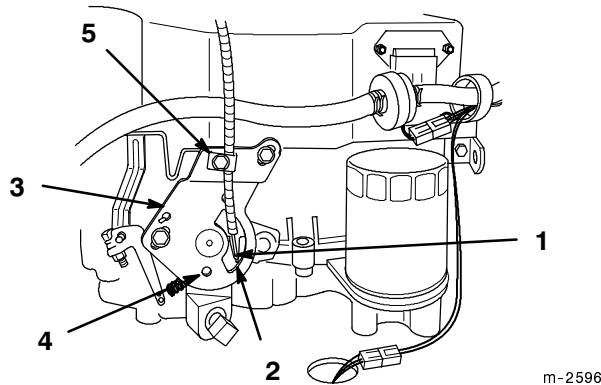

Figure 6
- Place throttle control lever in FAST position.(Fig. 6).
- Hook wire Z-bend into hole of speed control lever (Fig. 6).
- Loosen cable clamp screw allowing cable installation, but do not tighten (Fig. 6).